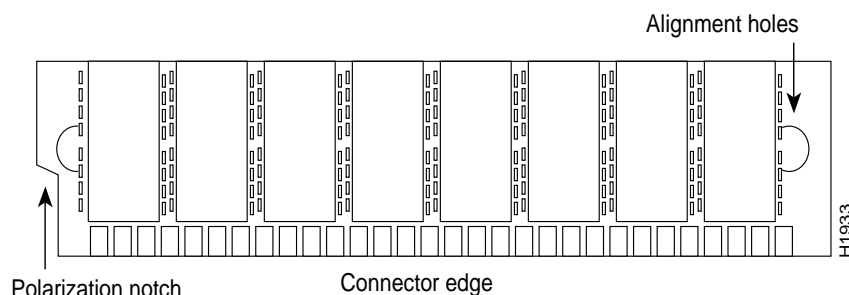

Figure 5 SIMM Polarization Notch
- Step 6** Hold the SIMM with the connector edge at the bottom and the component side facing you. SIMMs are manufactured with a *polarization notch* to prevent them from being installed backwards. Hold the SIMM with the polarization notch on the left, as shown in Figure 5.
Caution If you feel resistance, *do not force the SIMM or you might damage the socket*. The socket will have to be replaced if it breaks. Check the alignment of the SIMM to make sure it is straight (the top edge is parallel to the socket) and that the alignment holes are lined up with the plastic tabs on the socket (see Figure 5).
- Check the SIMM and ensure that it is the 1M x 8 or 4M x 8 type; the SIMM card should contain eight small memory components, as shown in Figure 5. (The actual layout on the card may be different; it is only important that there are eight components.)